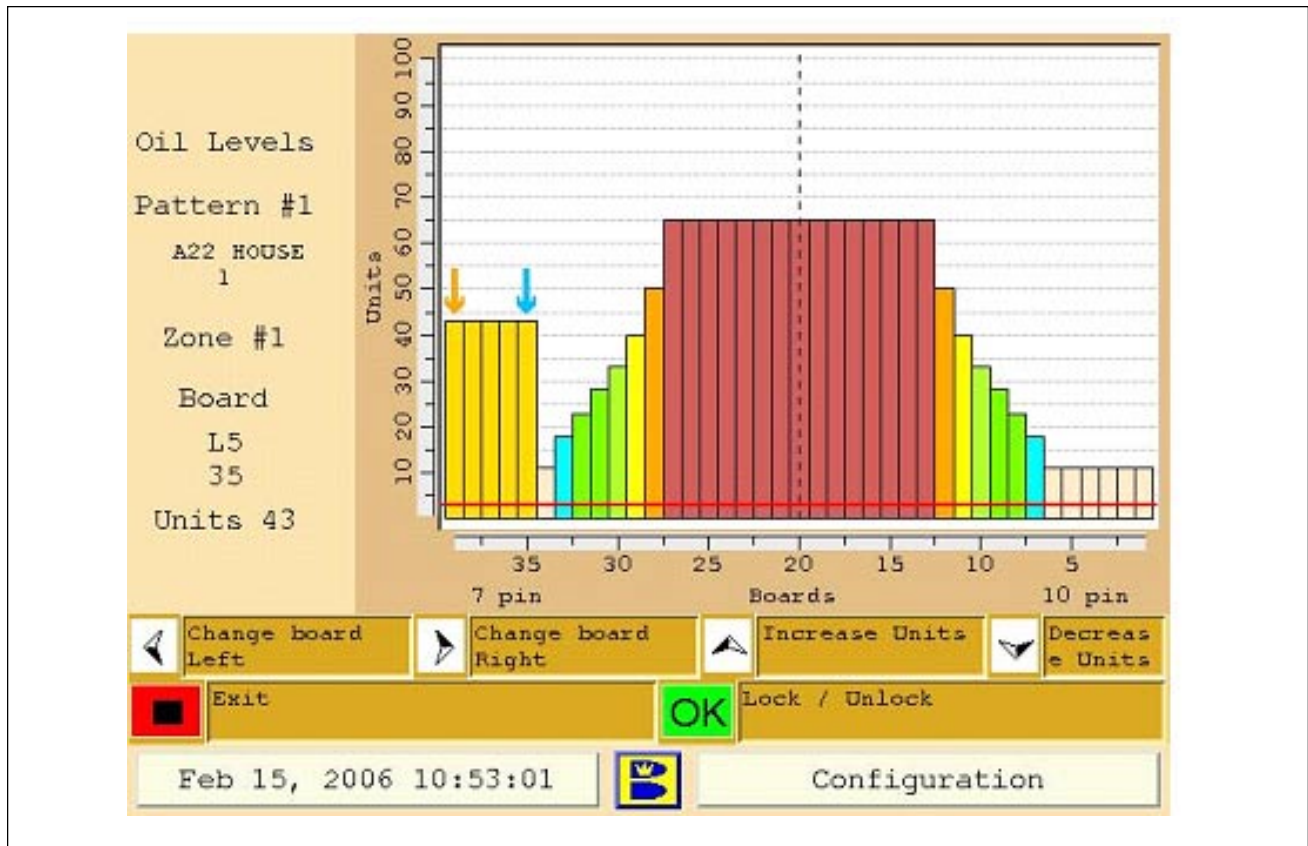

Figure 4-10. Oil Level
3. Use the left/right arrows to select the board you want to adjust (numbered 1-39 from the right of the screen or L2 (left 2 board) to R2 (right 2 board)). Refer to Figure 4-10.